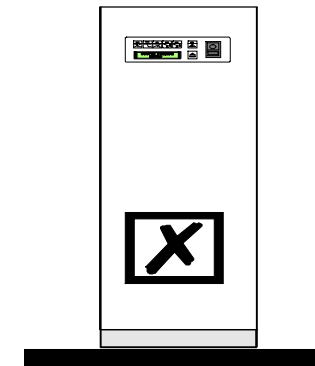

Figure 10
6.Do not expose it to corrosive gas. (Fig.10)